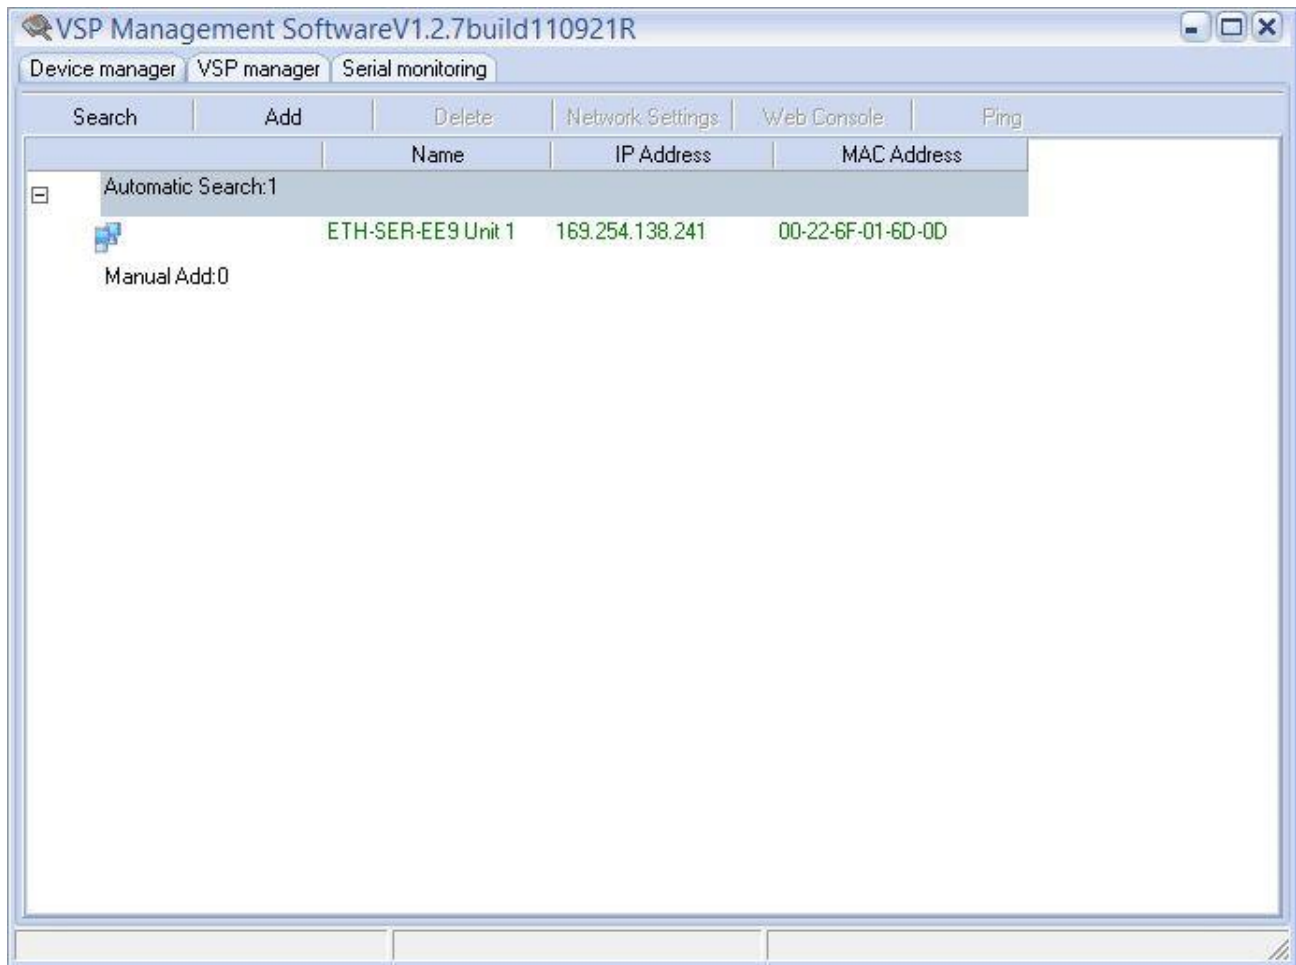

FIGURE 4.38 – SEARCH ETH-SER-EE9 DEVICE
- 5) Search for the attached ETH-SER-EE9 device. Our name is ETH-SER-EE9 Unit 1, IP 169.254.138.241 MAC 00-22-6F-01-6D-0D. (SEE FIGURE 4.38).